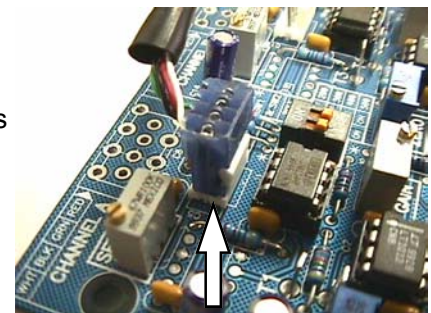

Fig 3.4 Sensor plugged into connector
6. Carefully insert the connector on the sensor cable into the appropriate header in the upper left-hand corner of the circuit board as shown noting that wires exit towards the wall of the box nearby. (Fig 3.4)